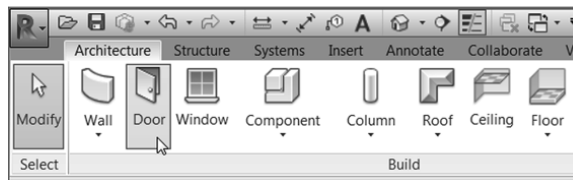

FIGURE 2.65: Adding a door
2. On the Architecture tab, click the Door button (see Figure 2.65).